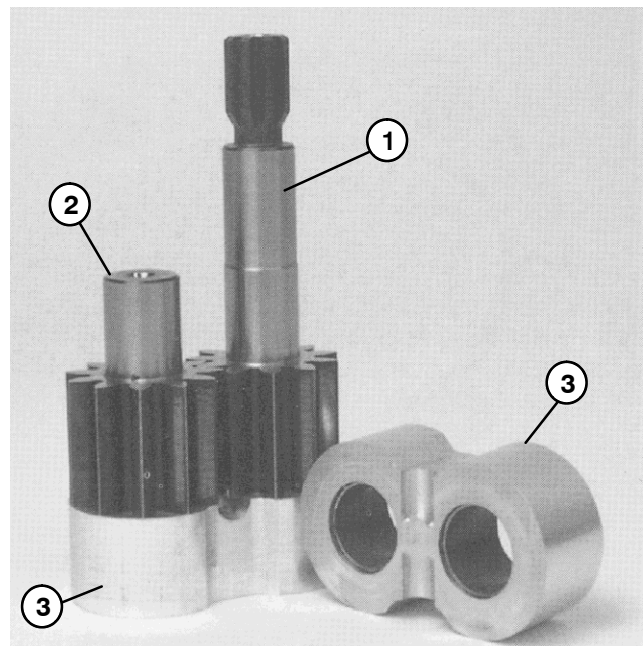

Figure 96
4. Remove four socket head cap screws (Fig. 96).
3. Inspect drive gear, idler gear and bearing blocks (Fig. 96) for the following: